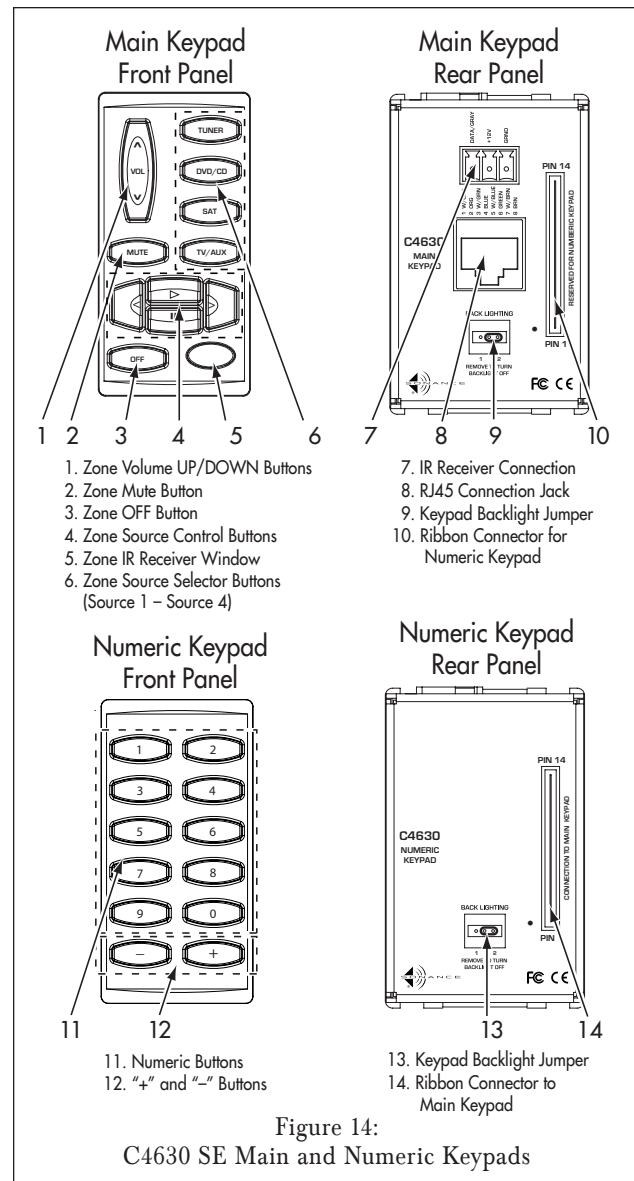
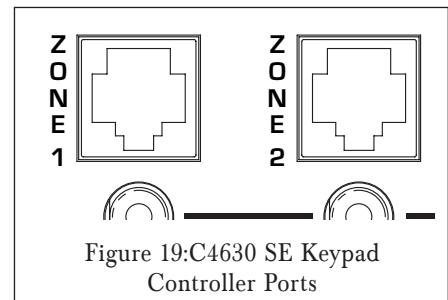

Figure 14:
Figure 19: C4630 SE Keypad
C4630 SE Main Keypad (see Figure 14)
C4630 SE Numeric Keypad (see *Figure 14*, on page 18)
4. Connect the CAT5/RJ45 cable to the RJ45 Connection Jack on the back of the Main Keypad (see *Figure 14*, on page 18) and to the zone's Keypad Controller Port on the C4630 SE (see *Figure 19*).
The buttons on the optional C4630 SE IR remote will perform the same functions as the correspondingly-named buttons on the Main and Numeric Keypads (see Figure 14, on page 18). Additionally, the remote also has an ALL OFF button and an OK button.
Without additional programming via the Sonance Control Manager, the C4630 SE has very limited functionality. The following functions are available “out-of-the-box” through the C4630 SE Main Keypad (see Figure 14, on page 18) and the optional IR remote: